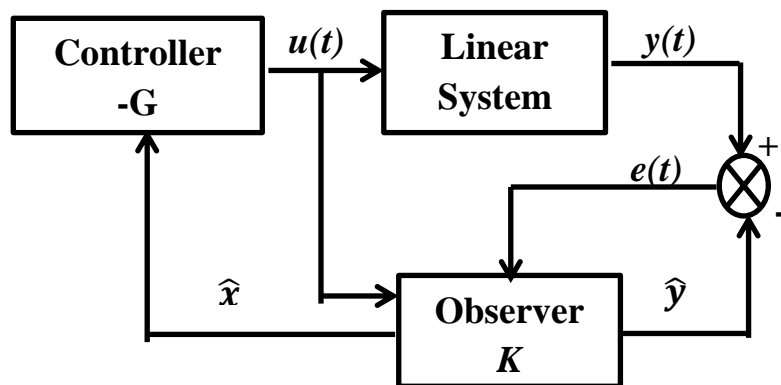

Figure 1
The corresponding block diagram of the system-observer configuration, also known as the observer based controller configuration, is presented in Figure 1 with the feedback loop closed using the feedback controller as defined as
3.In Simulink Editor of Matlab, construct and implement the closed-loop system of Fig. 1